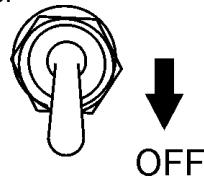

Figure 24. Idle Control Switch (OFF)
10. Place idle control switch (Figure 24) in the **OFF** (down) position. This will allow the engine speed to run at about 3600 RPM's.
Placing the idle control switch in the **OFF** position (Figure 24) allows the engine to operate at a maximum speed of about 3600 RPM's.